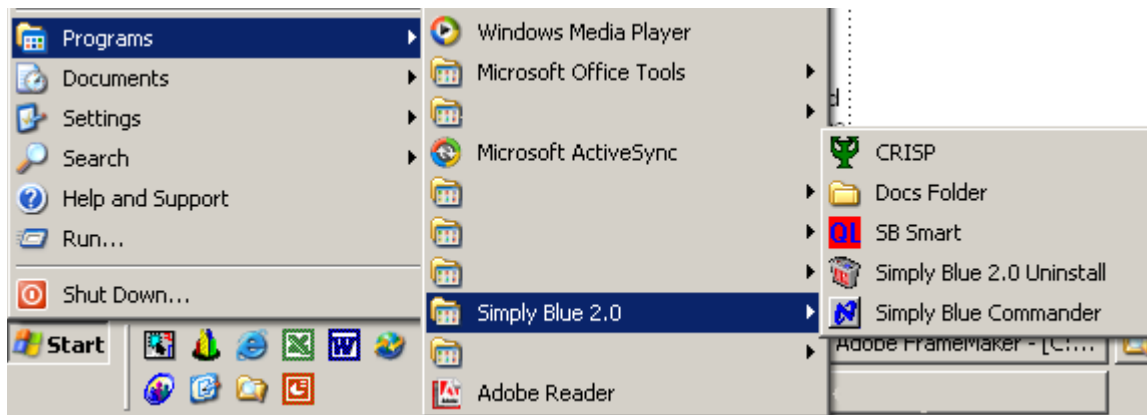

Figure 2-3. Simply Blue Shortcut
- 3) Shortcuts are installed at *Start->Programs->Simply Blue 2.0*. Reference Figure 2-3 on page 2.